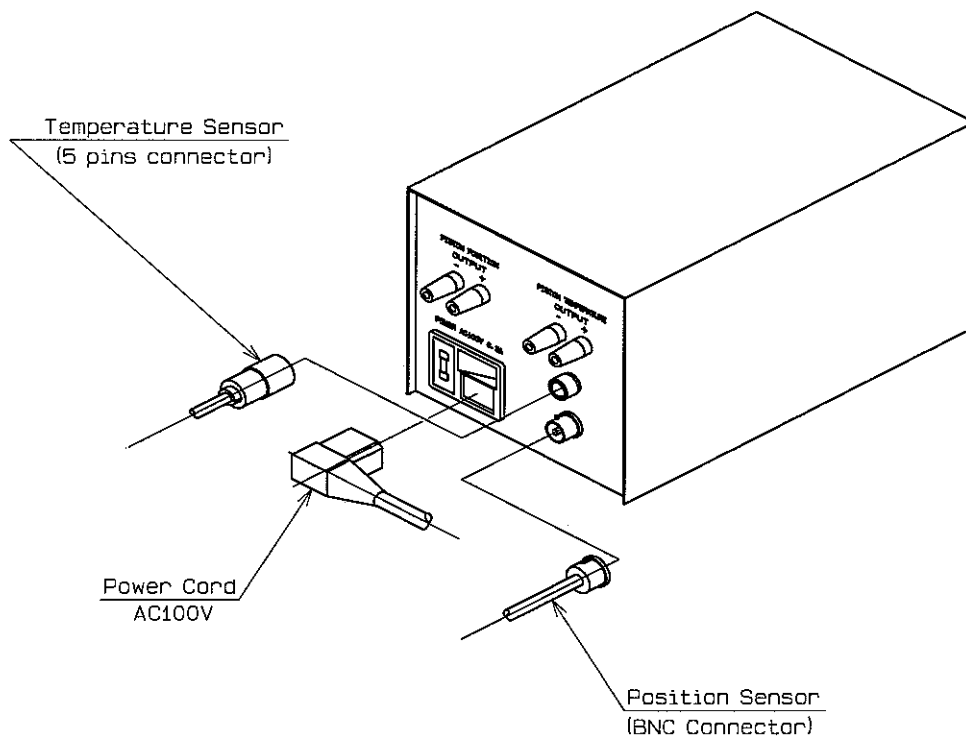

Figure 6-2
- ② The piston temperature and position indicator close to the dead-weight part, and connect the cables of the temperature sensor and position sensor coming from the dead-weight part as shown in Figure 6-2. Also connect the power cord.